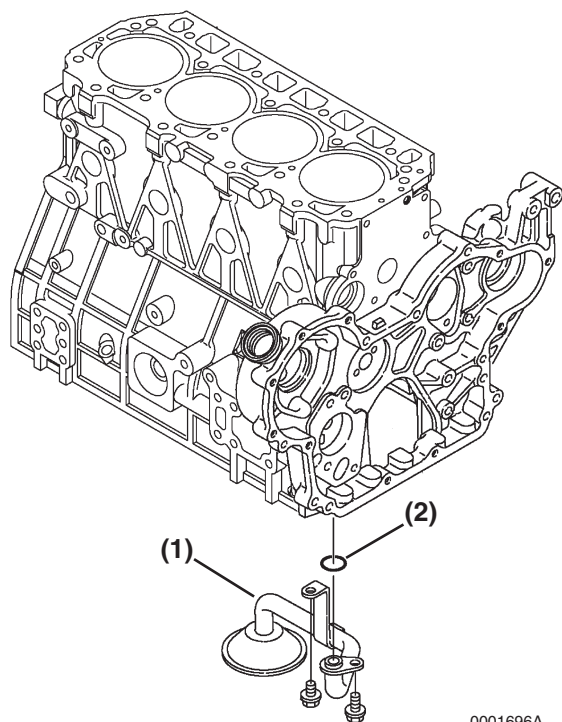

Figure 6-91
- Remove the oil pickup tube (Figure 6-91, (1)) and O-ring (Figure 6-91, (2)).